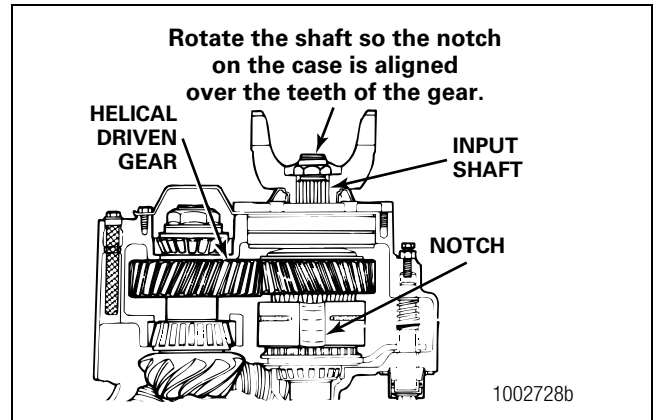
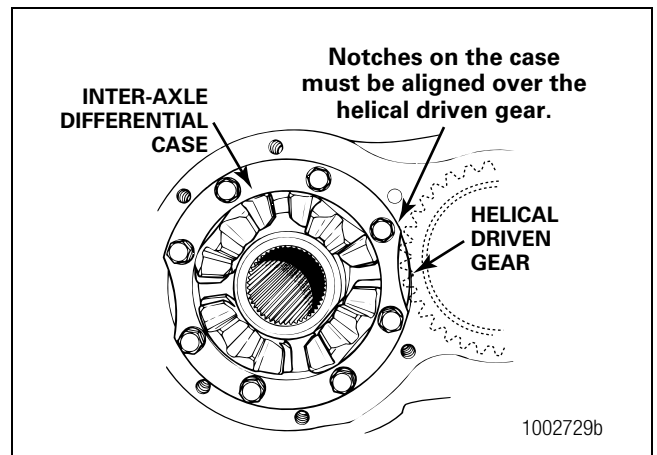

Figure 3.24
Figure 3.25
- **If the input shaft assembly cannot be removed easily:** The inter-axle differential case must be rotated. Rotate the input shaft until one of the notches on the case is aligned over the helical driven gear. Remove the input shaft assembly from the carrier. Figure 3.24 and Figure 3.25.